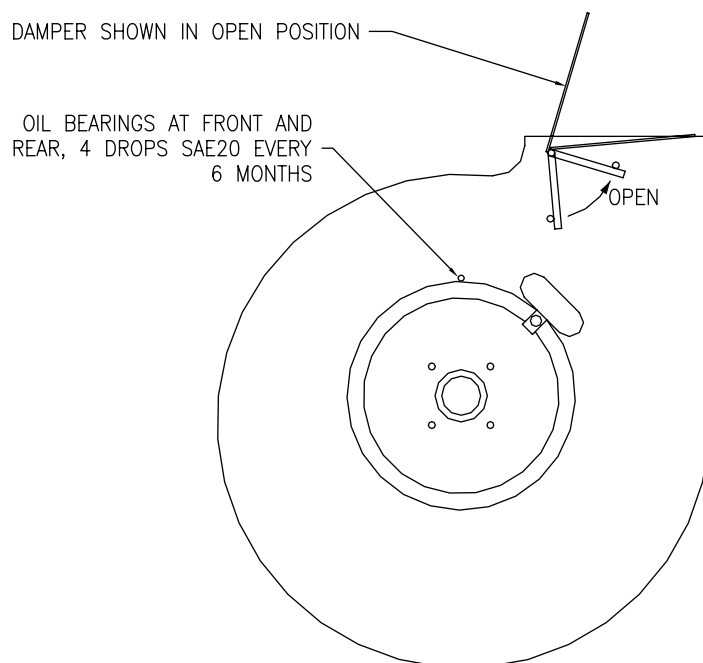

Figure 5
4. Inspect the blower vent damper for proper movement, making sure the damper extends to the full open position after the blower reaches full speed (see Figure 5). If the damper blade does not fully open, remove the vent connector and make sure the blower wheel is clean and debris has not fallen on the damper blade or blower wheel. If the damper binds, replace the blower assembly. **DO NOT ATTEMPT TO REPAIR THE DAMPER!**